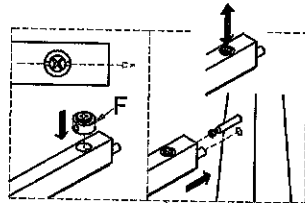

Figure 4
4. Attach all Cam Lock Nut (F) on the stretcher and attach all legs, stretcher on the table. (See Figure 4).